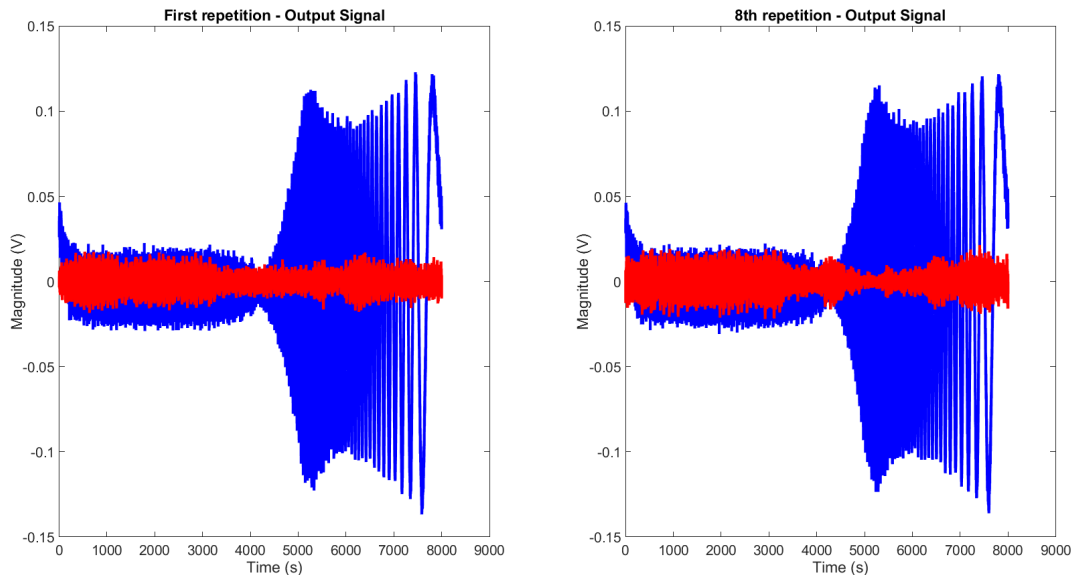

Figure 2.3: Output signal at the first and 8th repetition
**Important note** The variation of output signal on the figure 2.3 is highlighted in red. We can observe the variation is more or less the same at the first repetition and the last one. This may be due to the high reaction speed of the evaluated system meaning that the transient is very small even at the first repetition (to be confirmed with the TA).